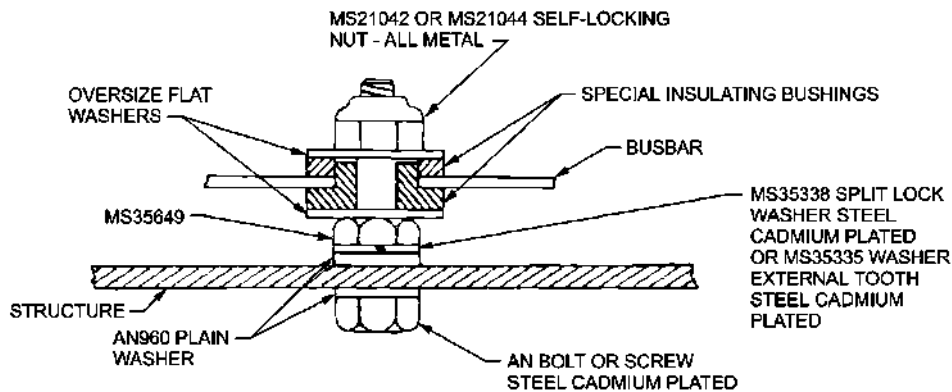

Figure 15-2 Mounting Busbars to Structure
10. When installing a copper busbar, always place cadmium plated steel plain washer between the busbar and the lockwasher or self-locking nut. (See Figure 15-2.) When installing an aluminium alloy busbar, place an aluminium alloy plain washer between the busbar and the lockwasher or self-locking nut.
11. Insulate the busbar from structure, junction box, or support with a fibreglass, phenolic, or other rigid insulating stand-off as shown in Figure 15-2. Do not use any moisture-absorbing material.